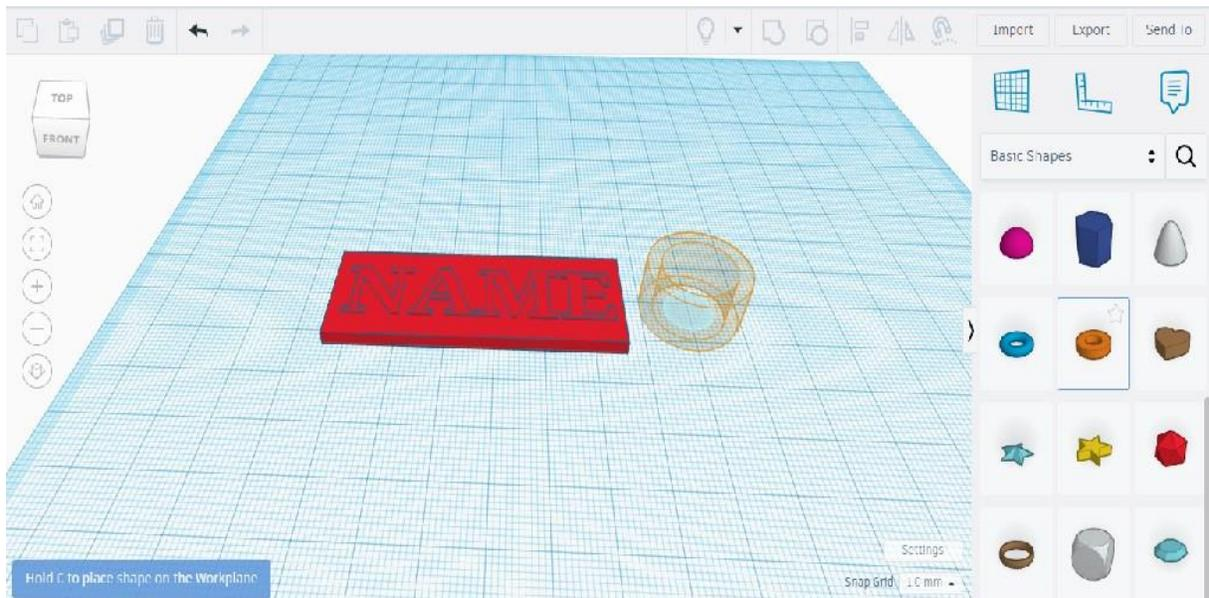

Fig.2.19 Selection of tube shape from the basic shapes
8. Scroll to the bottom of your Basic Shapes menu and drag a tube onto the Workplane. (Refer fig. 2.19)